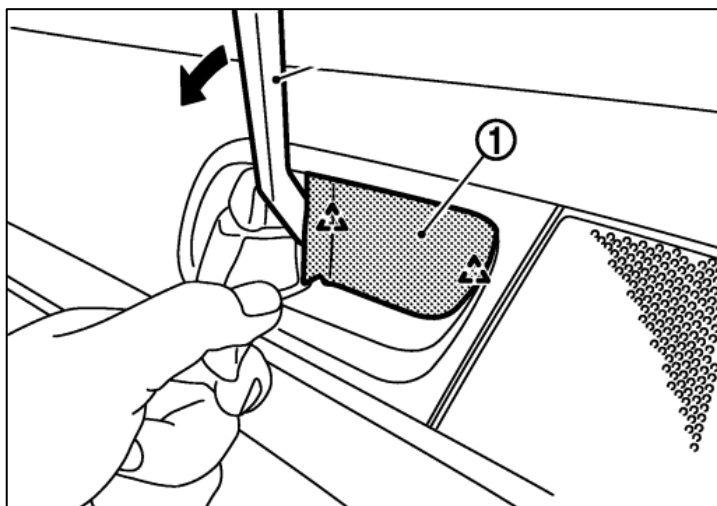

Figure 46
3. Behind the Door Handle, remove the small trim piece using a Trim Removal Tool. *Figure 46.*